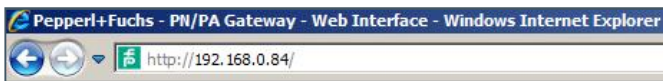

Figure 41: Troubleshooting the PROFINET gateway with the connected PROFIBUS PA devices
- 5) Key in the **IO Device IP address** into the web browser (see: Figure 41: Troubleshooting the PROFINET gateway with the connected PROFIBUS PA devices).